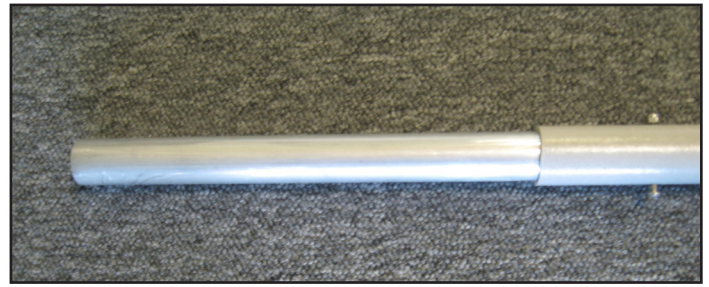

Fig. 8
- Select the remaining 1.25" OD + 1.125" OD x 36" aluminum tube and carefully insert the tube into the left side of the 1.5" OD x 48" fiberglass tube as shown in Fig. 8. Rotation of the larger tube may be required to position the smaller aluminum tube to properly nest within the larger aluminum tube being inserted.
- Fully insert the aluminum tube within the left side of the fiberglass tube as shown in Fig. 8. Align the holes and insert a 10-24 x 2.0" machine screw and loosely fasten (finger tight) using a 10-24 anti-vibration hex nut.